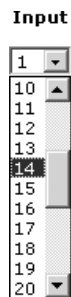

Figure 6-13 — Input selection drop box
1. Click the Input drop box. A drop-down scroll box appears (figure 6-13).